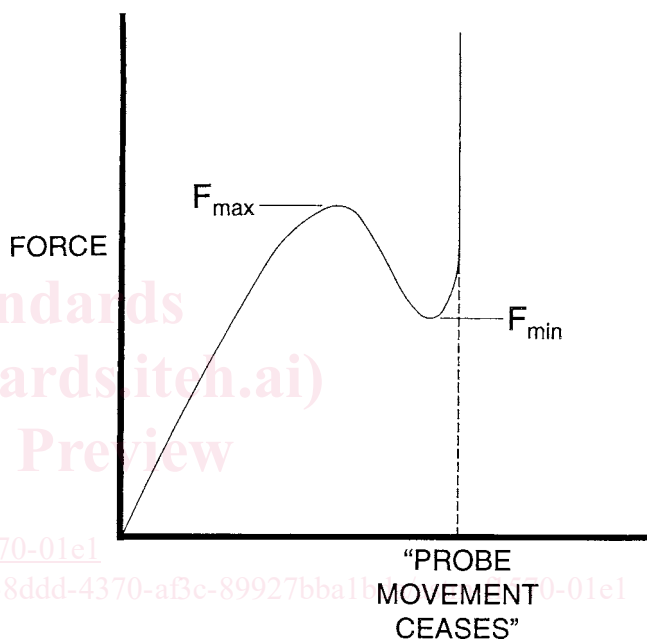

FIG. 1 Typical Tactile Force-Travel Curve
2.1.1 F_{\max} —maximum force measured prior to or including point (F_{\min}) (see Fig. 1 and Fig. 2).
2.1.3.1 Discussion—Usually expressed as a line graph (see Fig. 1 and Fig. 2).